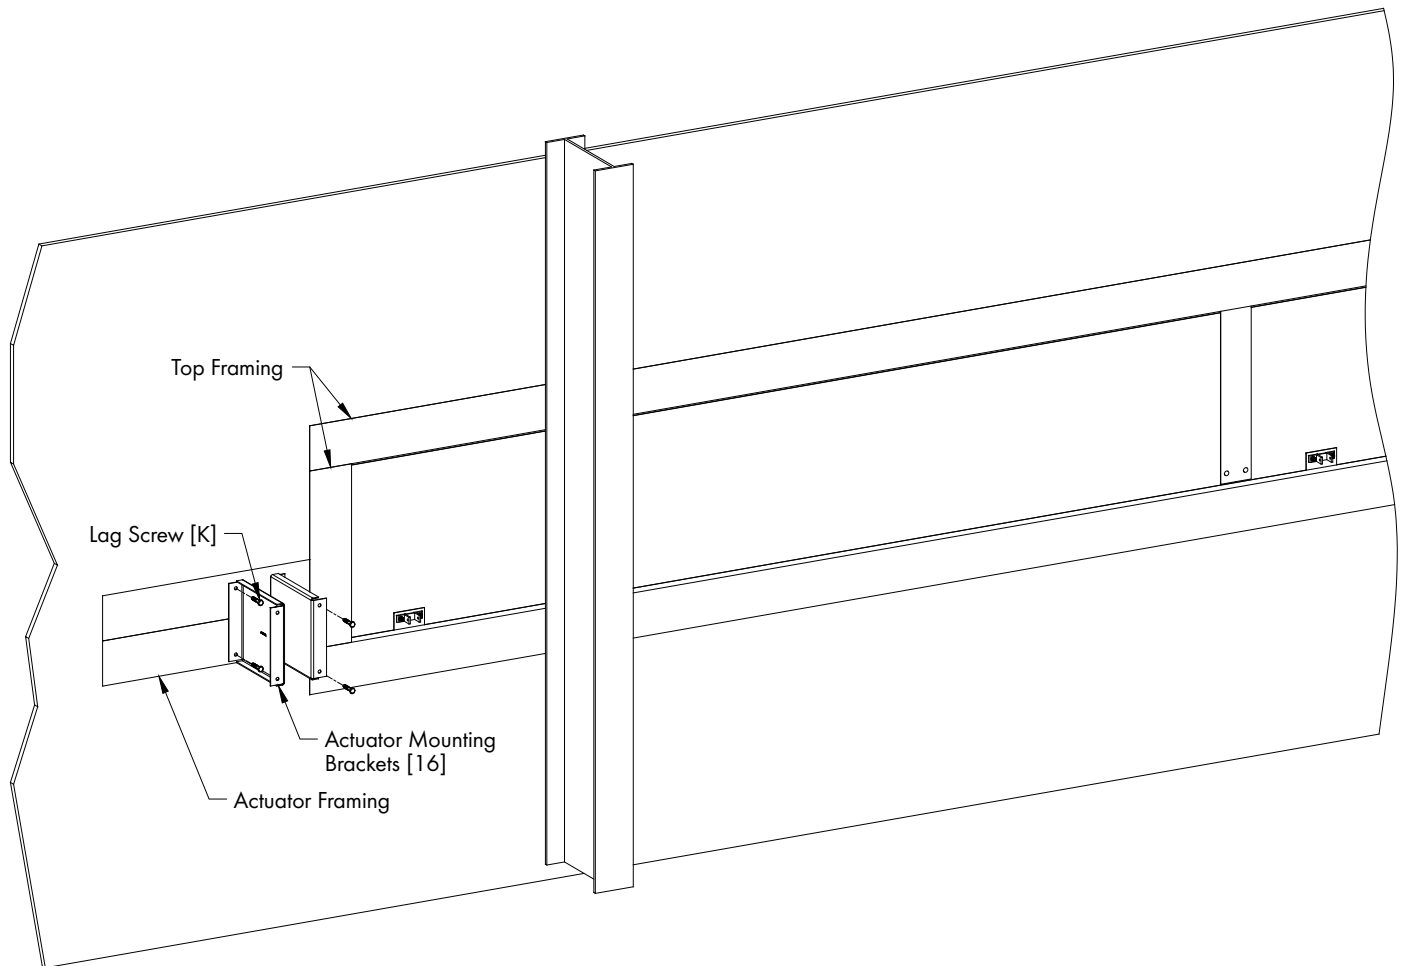

Figure 28
Fasten Actuator Mounting Brackets [16] to the framing in the position shown in previous step with (4) Lag Screws [K]. See Figure 28.